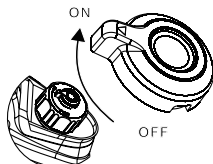

Figure 6: fuel tank vent -
2. Turn the fuel tank vent to the **ON** position (see Figure 6).